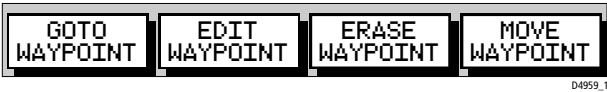

Figure 3-27: Waypoint Soft Keys
If you place a waypoint at the cursor, the Waypoint soft keys shown in *Figure 3-27* are shown. Press **CLEAR** to remove these softkeys.
1. Move the cursor over the waypoint, until the letters WPT are displayed. The Waypoint Data box (see *Waypoint Data Display* below) and the soft keys are displayed as shown in *Figure 3-27*:
- Whilst the cursor is over the waypoint, the waypoint soft keys are displayed, see *Figure 3-27*.